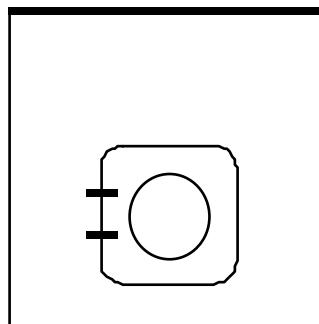

Figure 10-1
- Set the top cover *upside-down* in front of you, with the back edge facing away. Place the speaker over its holes, with the lugs to the *left*. (Figure 10-1).